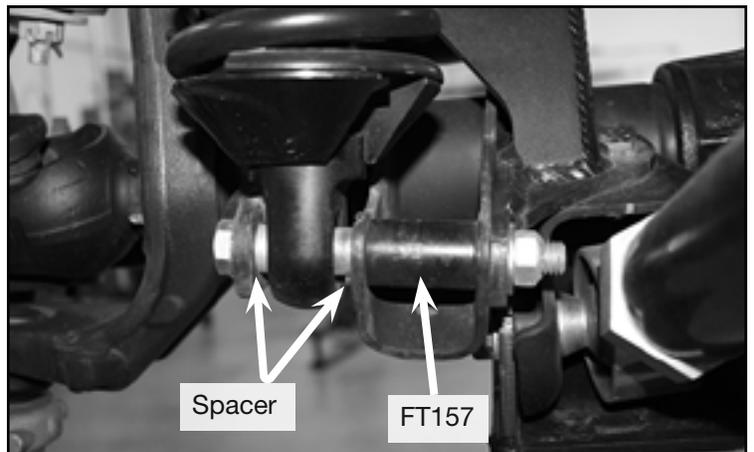

**FIGURE 41 - STEP 25**
25. Route the brakeline hose and speed sensor cable together and mount them to the lower mount using the supplied rubber clamps and self tapping screws. **SEE FIGURE 41**